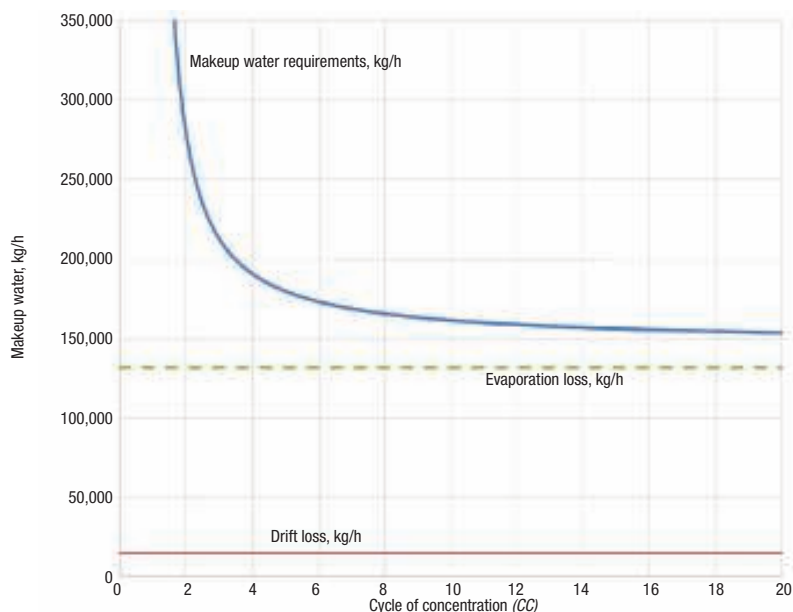

FIGURE 4. Makeup water requirements versus the cycle of concentration are shown here
The required makeup water mainly depends on evaporation loss and the CC calculated above. It is to be noted from Equation (11) that the minimum value of CC to be considered is 2, which requires blowdown to be at the same amount of water as the amount lost in evaporation. Any attempt to reduce the CC below 2 results in a significant amount of makeup water, as shown in Figure 4.